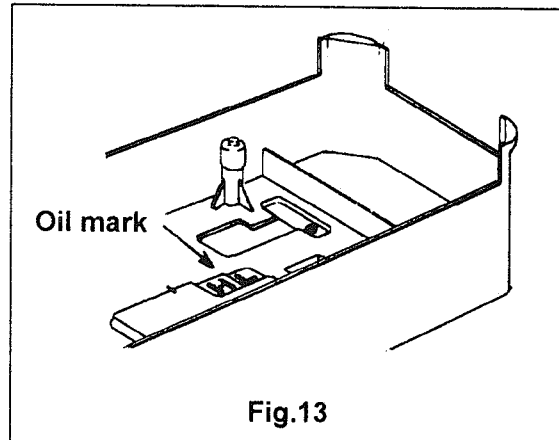
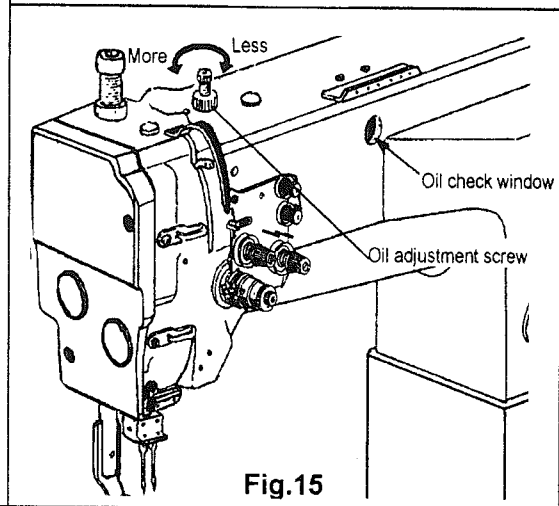

Fig.13
Fig.15
14. Lubrication (Fig.13、 Fig.14、 Fig.15):
1) Before starting operation, be sure to pour oil up to the position H of oil tank. If the oil below position L, replenish the oil supply up to position H. (Fig.13)
3) While operating the machine, check the condition of oil lubrication through the oil check window. The oil amount can be adjusted by oil adjustment screw. (Fig.15)